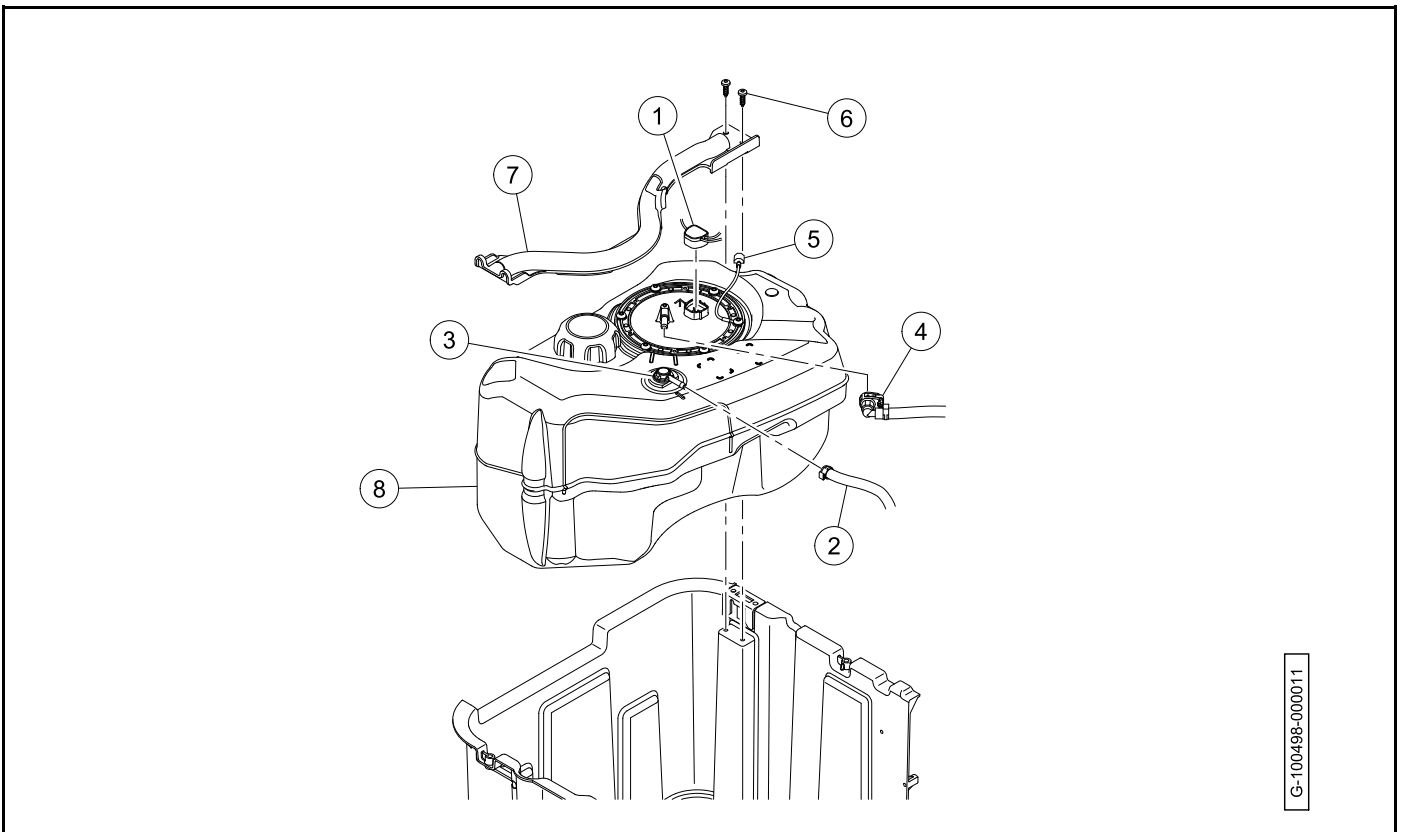

Figure 22-21 Fuel Tank Removal
- Disconnect the wire harness (1) from the fuel pump module (**Figure 22-21, Page 22-21**).